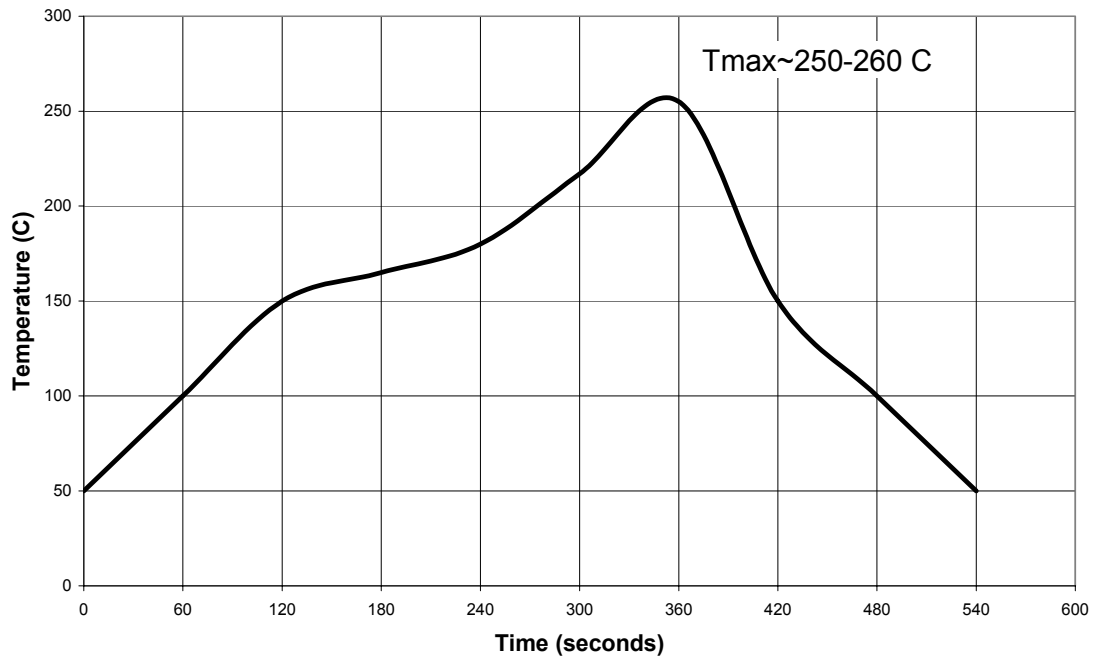
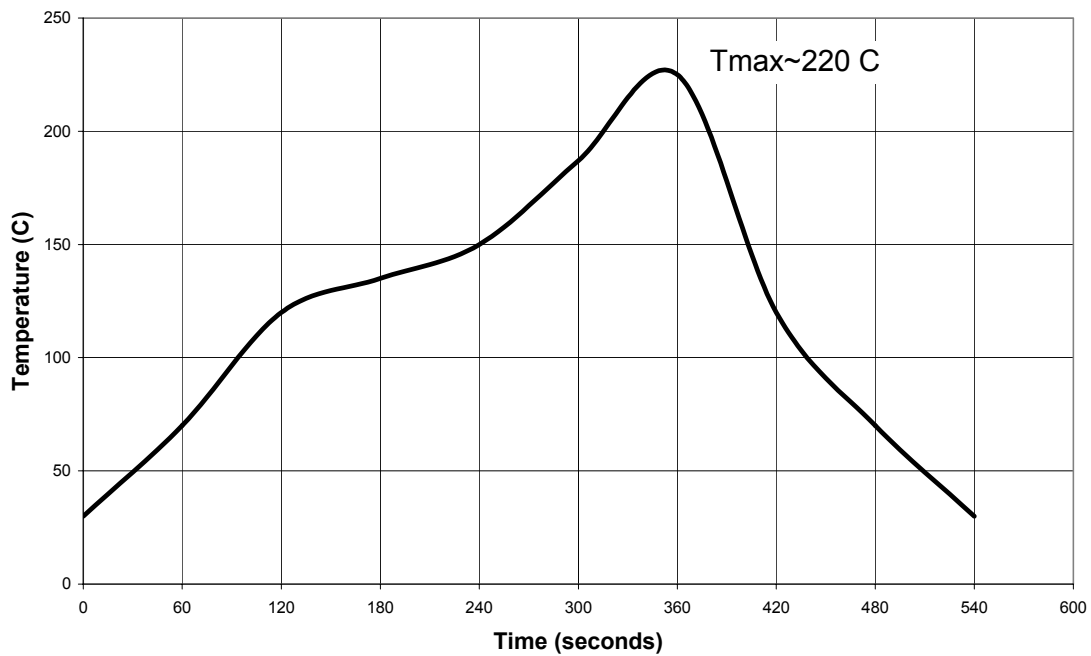

Figure 2 - Pb-free reflow profile
Figure 3 - Sn-Pb reflow profile
Centellax QFNs are Pb-free and compatible with either Sn/Pb or Pb-free assembly techniques. After paste print and part placement, solder attach is achieved by ramping the part to pre-heat, thermal soak, solder reflow and then cool as shown in Figure 2 for Pb-free solder attach, or in Figure 3 for Sn/Pb solder attach. Use of a no-clean (NC) flux is required since removal of all flux under the QFN is very difficult.